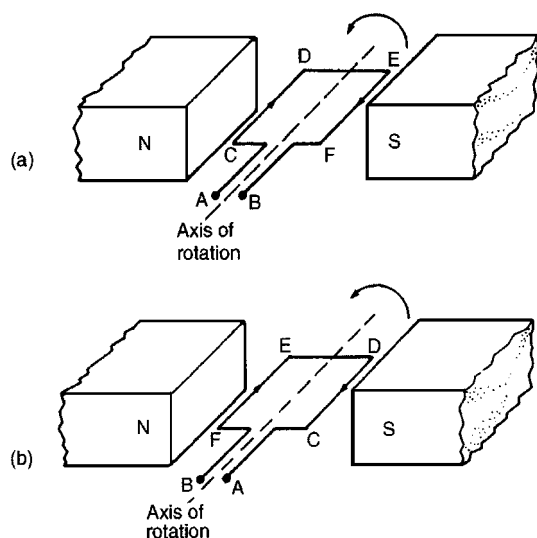
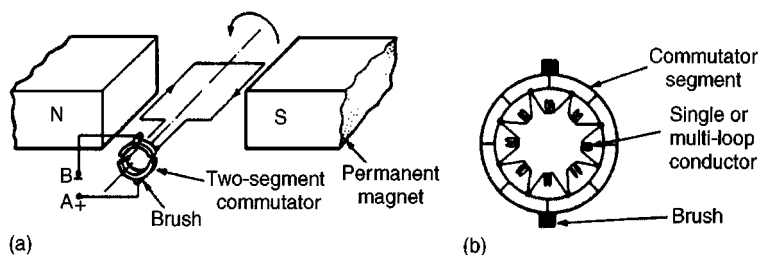

Figure 22.1
Figure 22.2
In an electric motor, conductors rotate in a uniform magnetic field. A single-loop conductor mounted between permanent magnets is shown in Fig. 22.1. A voltage is applied at points A and B in Fig. 22.1(a)
the other acting vertically upwards due to the current flowing from E to F (from Fleming's left hand rule). If the loop is free to rotate, then when it has rotated through 180° , the conductors are as shown in Fig. 22.1(b). For rotation to continue in the same direction, it is necessary for the current flow to be as shown in Fig. 22.1(b), i.e. from D to C and from F to E. This apparent reversal in the direction of current flow is achieved by a process called **commutation**. With reference to Fig. 22.2(a), when a direct voltage is applied at A and B, then as the single-loop conductor rotates, current flow will always be away from the commutator for the part of the conductor adjacent to the N-pole and towards the commutator for the part of the conductor adjacent to the S-pole. Thus the forces act to give continuous rotation in an anti-clockwise direction. The arrangement shown in Fig. 22.2(a) is called a 'two-segment' commutator and the voltage is applied to the rotating segments by stationary **brushes**, (usually carbon blocks), which slide on the commutator material, (usually copper), when rotation takes place.
In practice, there are many conductors on the rotating part of a d.c. machine and these are attached to many commutator segments. A schematic diagram of a multi-segment commutator is shown in Fig. 22.2(b)
- (iii) **field windings**, i.e. many turns of a conductor wound round the pole core; current passing through this conductor creates an electromagnet, (rather than the permanent magnets shown in Fig. 22.1 and 22.2),